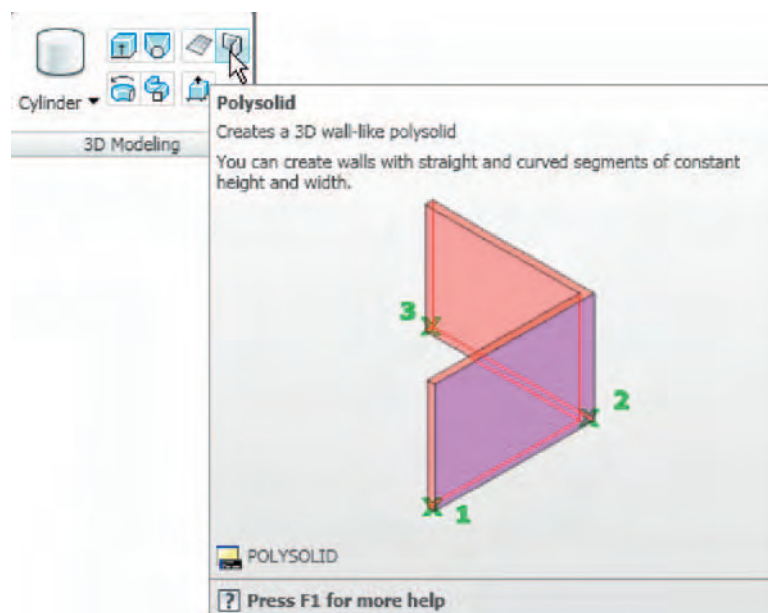

Fig. 12.7 The Polysolid tool icon in the Home/3D Modeling panel
5. Call the **Polysolid** tool with a *click* on its tool icon in the **3D Modeling** panel (Fig. 12.7). The command line shows:
1. Construct the left-hand drawing of Fig. 12.7 using the **Line** tool.